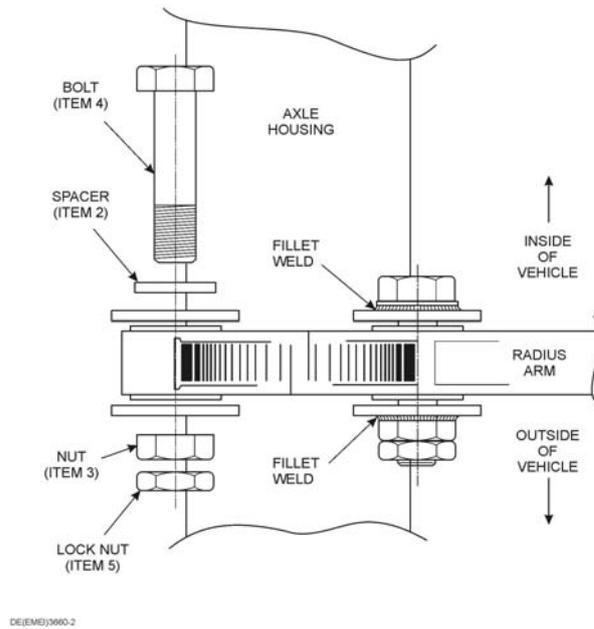

Figure 117 Radius Arm Mounts
- i. Fit Items 2, 3 and 4 from Table 16 to the axle case mounts, ensuring the bolts are fitted from the inside facing out and are parallel to the axle casing, (Figure 117), and tighten them firmly.
- j. Weld the inside spacers and outside nuts to the axle casing mounts (Figure 117), with a 3 mm continuous fillet weld using either:
- (1) Manual Metal Arc Welding (MMAW) process using electrodes conforming to AS/NZS 4855: E4918 Welding Consumables – Covered Electrodes for Manual Metal Arc Welding of Non-alloy and Fine Grain Steels; or
- (2) Gas Metal Arc Welding (GMAW) process using consumables conforming to AS/NZS 2717.1: ES6-GC/M-W503AH and shielding gas Argoshield Standard.